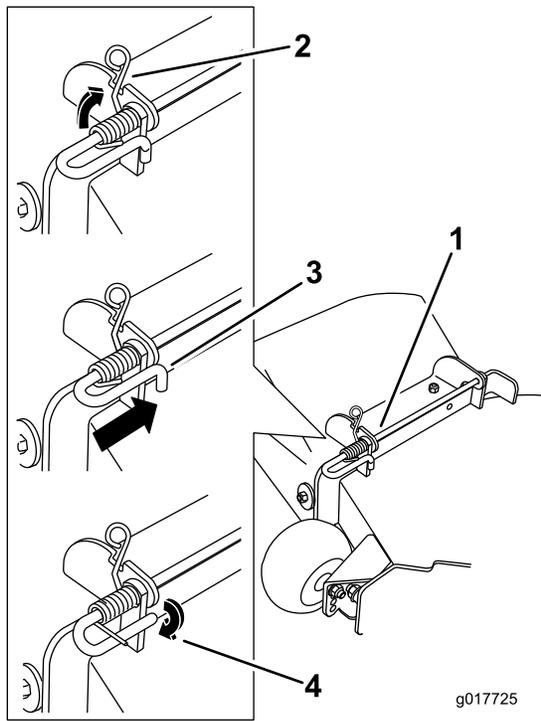

Figure 72
4. Lift the loop end of the spring and place it into the notch on the deflector assembly bracket (Figure 72).
- Secure the rod and spring assembly by twisting it so the short end of the rod can be placed behind the front bracket welded to the deck (Figure 72).